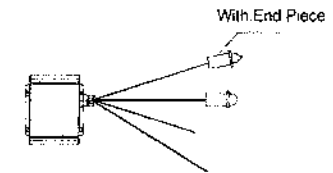

Fig.26
2.End Lighting Fiber Optic: (see Fig.26).